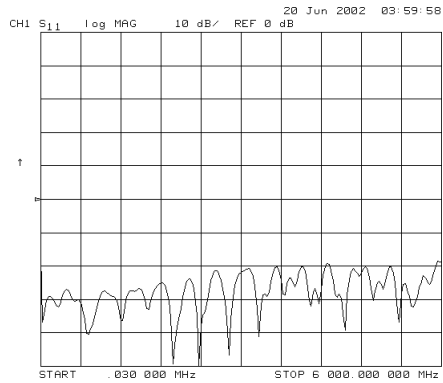

Figure 1-15. Forward Transmission Mode
- 12** Look at the measurement trace displayed on the Agilent 8702D. It should be similar to the trace displayed in Figure 1-15.